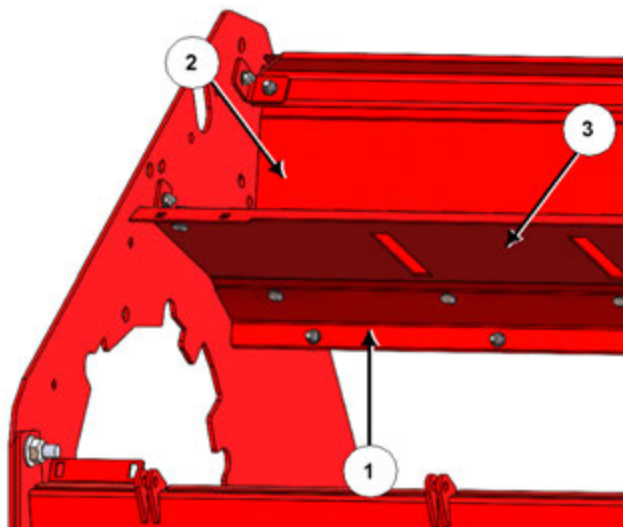

Figure 27: Install mid guard rod deflector
7. Install the mid guard rod deflector (Item No. 9 in Table 1) to secure the top flail deflector and guard rod side sheet together; see Figure 27.
- a. Place the mid guard rod deflector (1) on the underside of where the top flail deflector (2) and the guard rod side sheet (3) meet, and line up the holes.
- b. Fasten the mid guard rod deflector (1) in place using the provided carriage bolts and flange lock nuts.